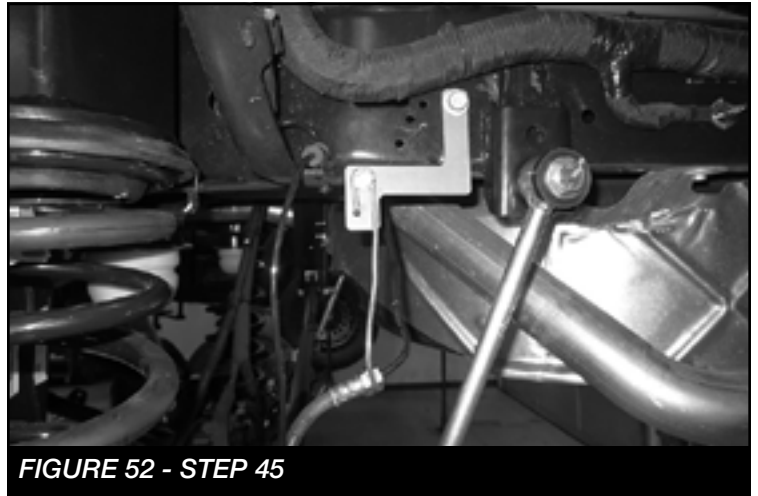

FIGURE 52 - STEP 45
45. **2020 MODELS ONLY:** Disconnect the factory brake line from the frame. Install FT44543 (Brake line bracket) to the frame using the factory hardware. Then, install the factory brake line rod bracket to the FT44543 (Bracket) using the supplied 1/4" x 3/4" hardware. Torque hardware to 8 ft-lbs. **SEE FIGURE 52**